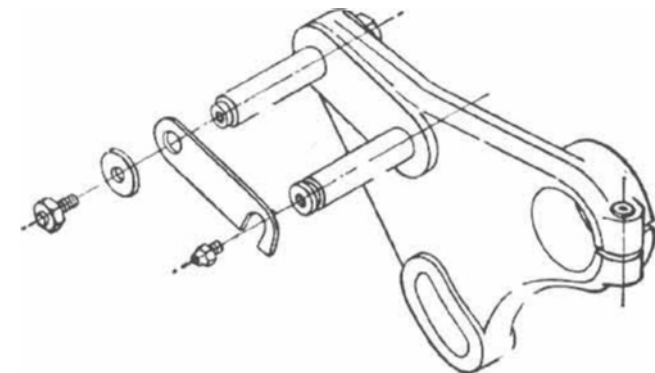

Fig. 2. Normal
N.B. When changing to the slotted quadrant (page 6 fig. 5) or back to the standard quadrant (page 3 fig. 2) it may be necessary to reset the anchor pin No. 03 (see page 15 paragraph 22) in order to line up the driven gear on the first stud with the driver on the tumbler stud.